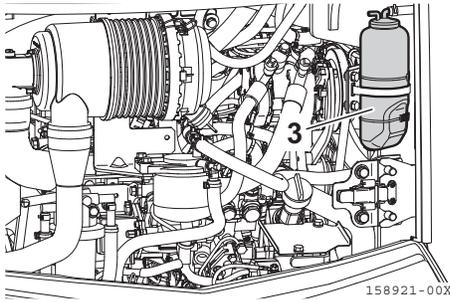

Fig. 8-61
7. Open the rear hood, remove the cooling water sub-tank (**Fig. 8-61, 3**), and drain the cooling water from the sub-tank.
8. Reinstall the cooling water sub-tank (**Fig. 8-61, 3**), and add the cooling water up to the FULL line.
12. Check the level in the sub-tank (**Fig. 8-61, 3**), and if it is below the FULL line, pour the cooling water.